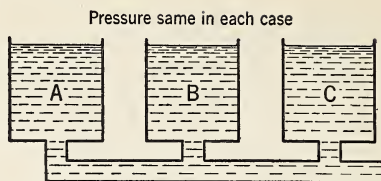

FIG. 608. Water analogy for parallel grouping.
2. *Parallel grouping.* Suppose that we have three tanks of water all at the same level, as in Fig. 608. Connecting them all to the same external pipe does not increase the pressure. No matter how many water tanks of the